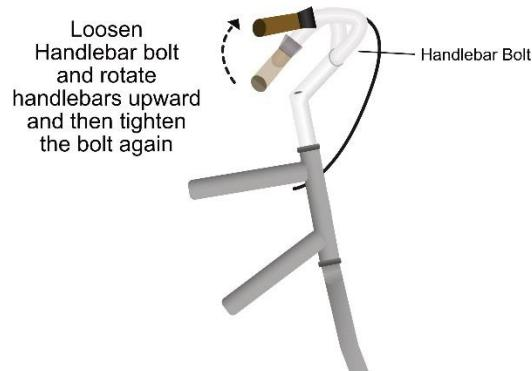

Figure 7 – Handlebar Adjustment
- (2) **Loosen the Handlebar Bolt and rotate the handlebars upward. Then tighten the Handlebar Bolt again. (See Figure 7).**